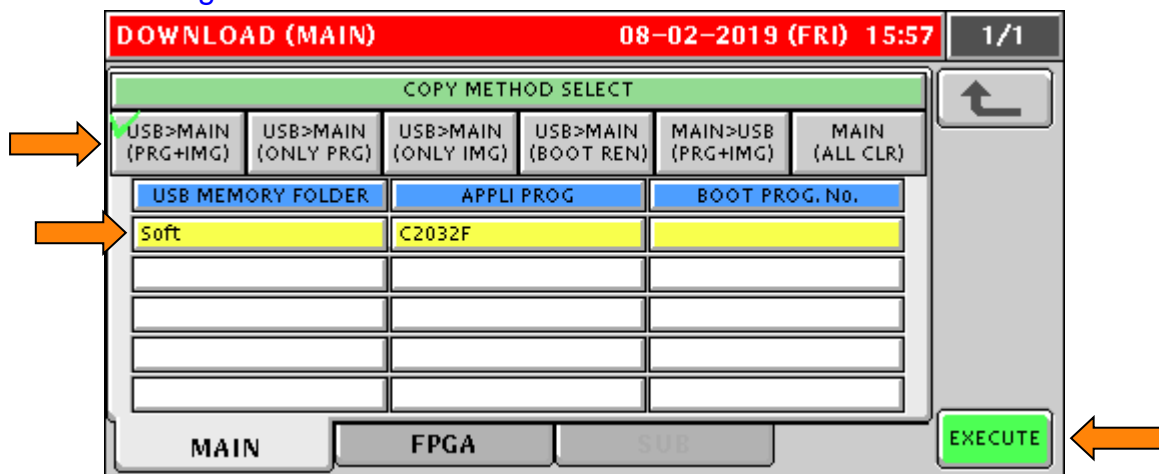

Figure 43. Select **USB>MAIN (PRG+IMG)** and the Firmware File to Install
- n. Select **USB>MAIN (PRG+IMG)**. See Figure 43.
- o. Press the firmware version to be installed. It will be highlighted in yellow. See Figure 43.